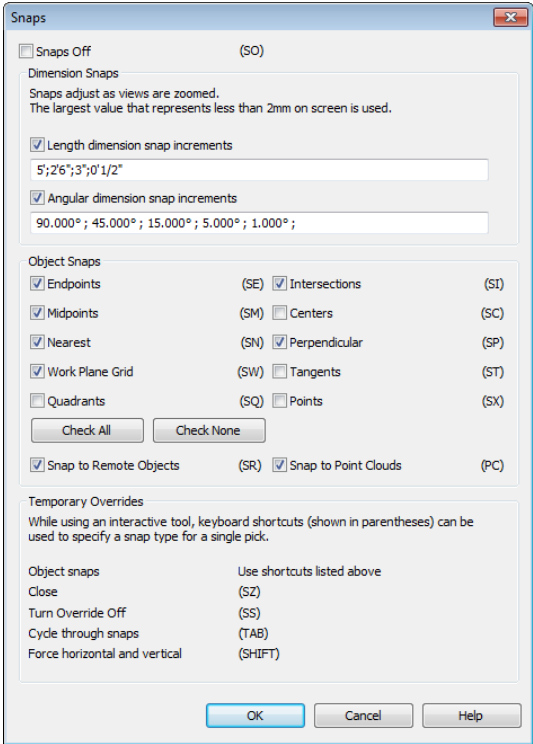

Figure 2-29 The Snaps dialog box
- d. Save the project as *c02_Commercial-Complex_tut1.rvt* by using the **Save** tool, refer to Figure 2-29.
3. Now, click in the edit box below the **Length dimension snap increments** check box and delete the existing values and then enter **5';2'6";3";0'1/2"** as the new values, as shown in Figure 2-29.